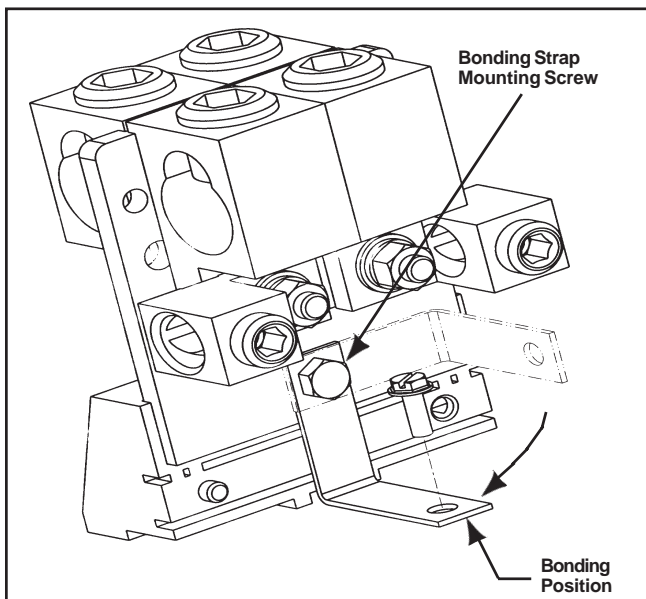

Fig. 1
- a. Loosen Bonding Strap mounting screw and reposition Bonding Strap to the bonding position on the Neutral Assembly as shown in Fig. 1. Torque Bonding Strap mounting screw to 65 lb.-ins in this position.